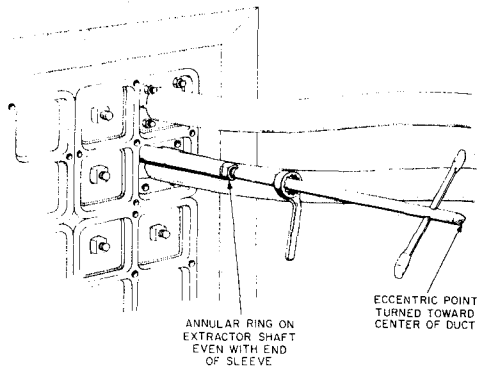

Fig. 8—Inserting Extractor
- (2) Push the tongue of the sleeve to its full depth between the rubber and the duct wall. It may be found convenient to insert the handle end of the extractor into the sleeve to provide an extension which permits a firmer grip.
- (3) Assemble the wrench on the extractor and pass the extractor through the sleeve, as illustrated. There is an eccentric point on the handle end of the extractor which is in line with the grooved tip. Turn this point toward the center of the duct and away from the wall of the conduit. This will place the tip approximately in line with the bolt hole in the rubber.
- (4) Press the extractor forward until the tip is completely embedded in the rubber. This position is reached when the annular groove in the extractor shaft is even with the end of the sleeve (Fig. 8).